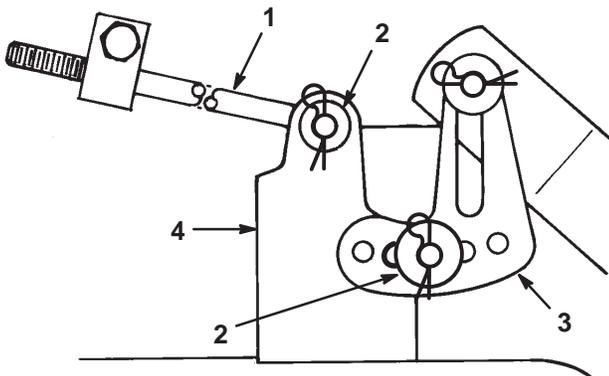

Figure 43
- Slide the end of the long rod through the hole in the mower mount (Fig. 43). Install the washer and hairpin cotter to secure the rod in place. Repeat this step on the opposite side of the mower.
- Mount the slotted mower leveling bracket onto the pin on the height-of-cut arm (Fig. 43). Install the washer and hairpin cotter to secure the mower. Repeat this step on the opposite side of the mower.